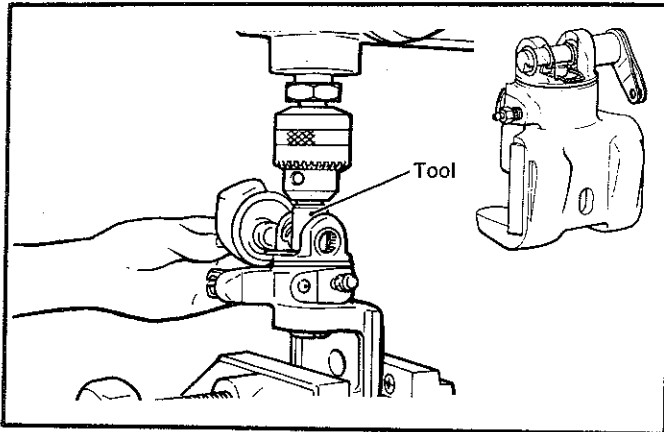

Fig. 15—Installing parking brake lever
(7) With the spindle positioned in the caliper, compress the spindle and spring washers and install the parking brake lever and cap onto the caliper. This can be achieved by using a drill press and a suitable tool to compress the spindle while allowing access for parking brake lever installation, Fig. 15.
(8) Liberally lubricate the spring washers, spindle head, connecting link, bearings and lever cap lip area with the orange grease supplied in the repair kit.